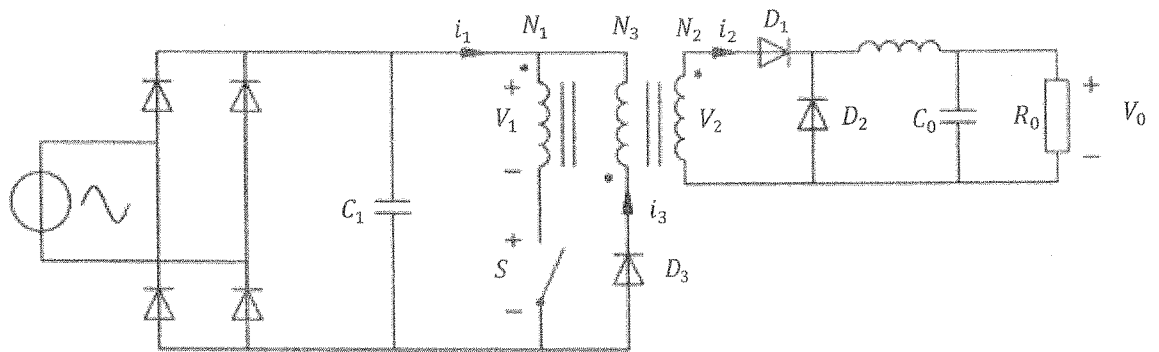

Figure Q5 : Forward Converter
Q5 Figure Q5 shows a circuit diagram of a forward converter.
- b) The forward converter shown Figure Q5 is connected to 230 V, 50 Hz utility grid via a diode rectifier. The following data is given for the forward converter.